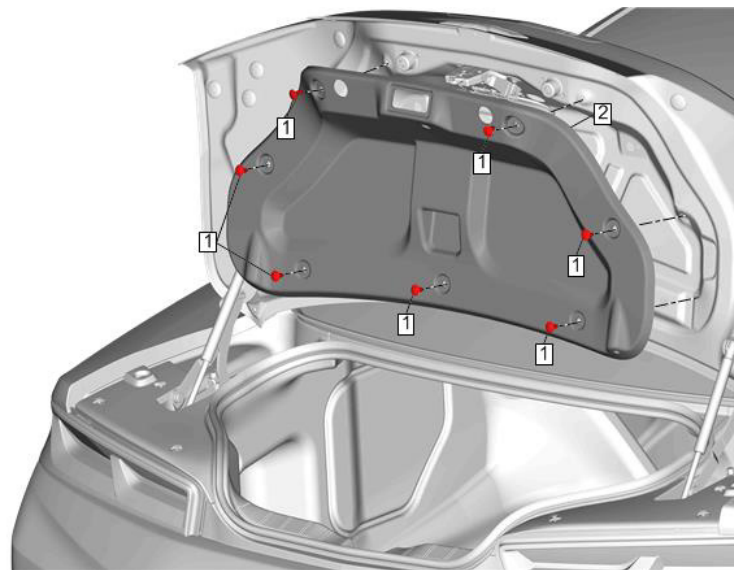

Figure 3: Rear Compartment Lid Inner Panel Trim Replacement
3. Remove Rear Compartment Lid Inner Panel Trim (Figure 3).
- a. Remove the Rear Compartment Lid Inner Panel Trim Retainers (Figure 3 callout 1, 7x).
- b. Remove Rear Compartment Lid Inner Panel Trim using a plastic flat-bladed tool to remove the push-in retainers. (Figure 3 callout 2).
8. Reinstall Rear Compartment Lid Inner Panel Trim (Figure 3).